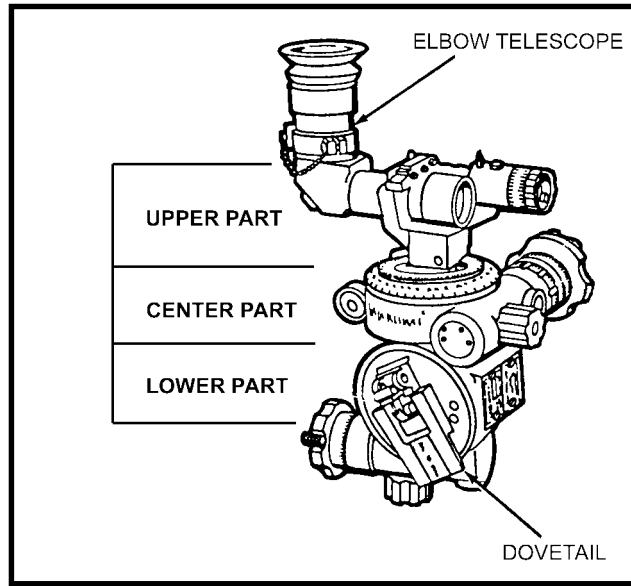

Figure 2-12. Sightunit with elbow telescope, M109.
a. **Elbow Telescope, M109.** The elbow telescope (Figure 2-12, page 2-20) is a lightweight, 4-power, fixed-focus instrument with a 10-degree field of view that provides the optical line of sight for aiming the weapon in azimuth and elevation planes.